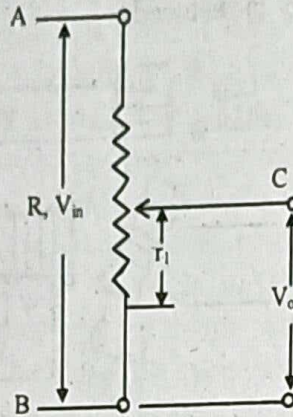

Fig: 2 Working a potentiometer
A and B are two fixed terminals having resistance R . If a constant d.c. voltage (V_{in}) is applied across the fixed end terminals (A and B), then an output voltage V_o is obtained from the variable terminal (C) with respect to an end terminal. (say, B) as shown in the figure 2.
Referring to the figure 2, due to voltage division,